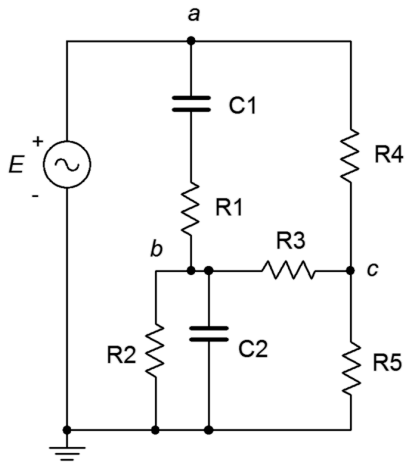

Figure 6.30
65. Find voltage v_{bc} in the circuit of Figure 6.30 using either mesh or nodal analysis. $E = 100\angle 0^\circ$, $R1 = R2 = 2\text{ k}\Omega$, $R3 = 3\text{ k}\Omega$, $R4 = 10\text{ k}\Omega$, $R5 = 5\text{ k}\Omega$, $X_{C1} = X_{C2} = -j2\text{ k}\Omega$.